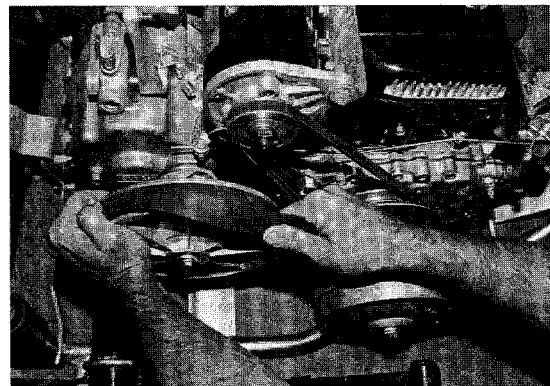

Figure 9-2
1. Grasp belt midway between the drive and driven clutches, lift upward on the belt to force the sheaves of the driven clutch apart, roll belt off the driven clutch (Figure 9-2).